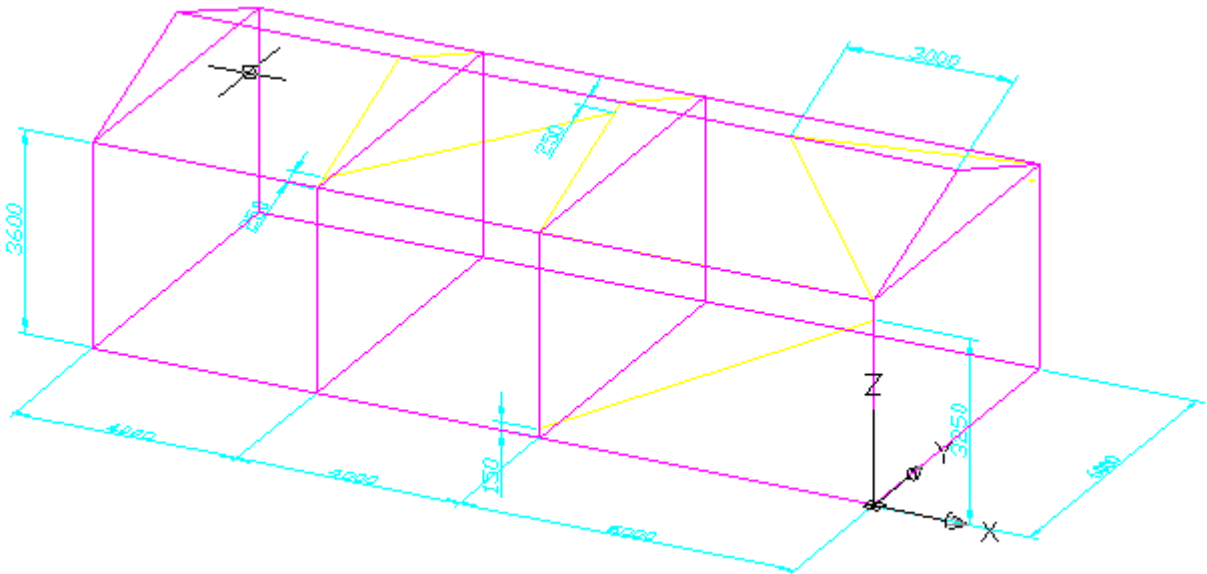

Fig 2
1. Draw 3D shape (Fig 2) using a mixture of Prosteel's, work frames and created PS_CONST lines, a lot of buildings do not use a rectangular or square frame so any additional lines are best kept in the PS_CONST layer for editing purposes. These lines on this layer can be erased at the press of an icon or the layer could be turned off. Use frame for overalls and grids. The work frames create views at grids, top, ends & sides etc. and these can be used for the marking plans, sections through the building and HDB Plans. Note: set view to Isometric Overview 1, as per the Aeroplane Icon.